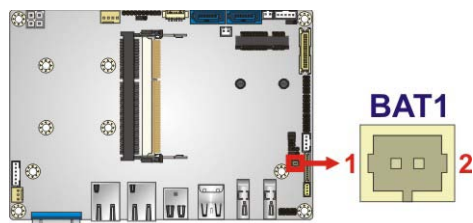

Figure 4-3: Battery Connector Location
- CN Location: See **Figure 4-3**